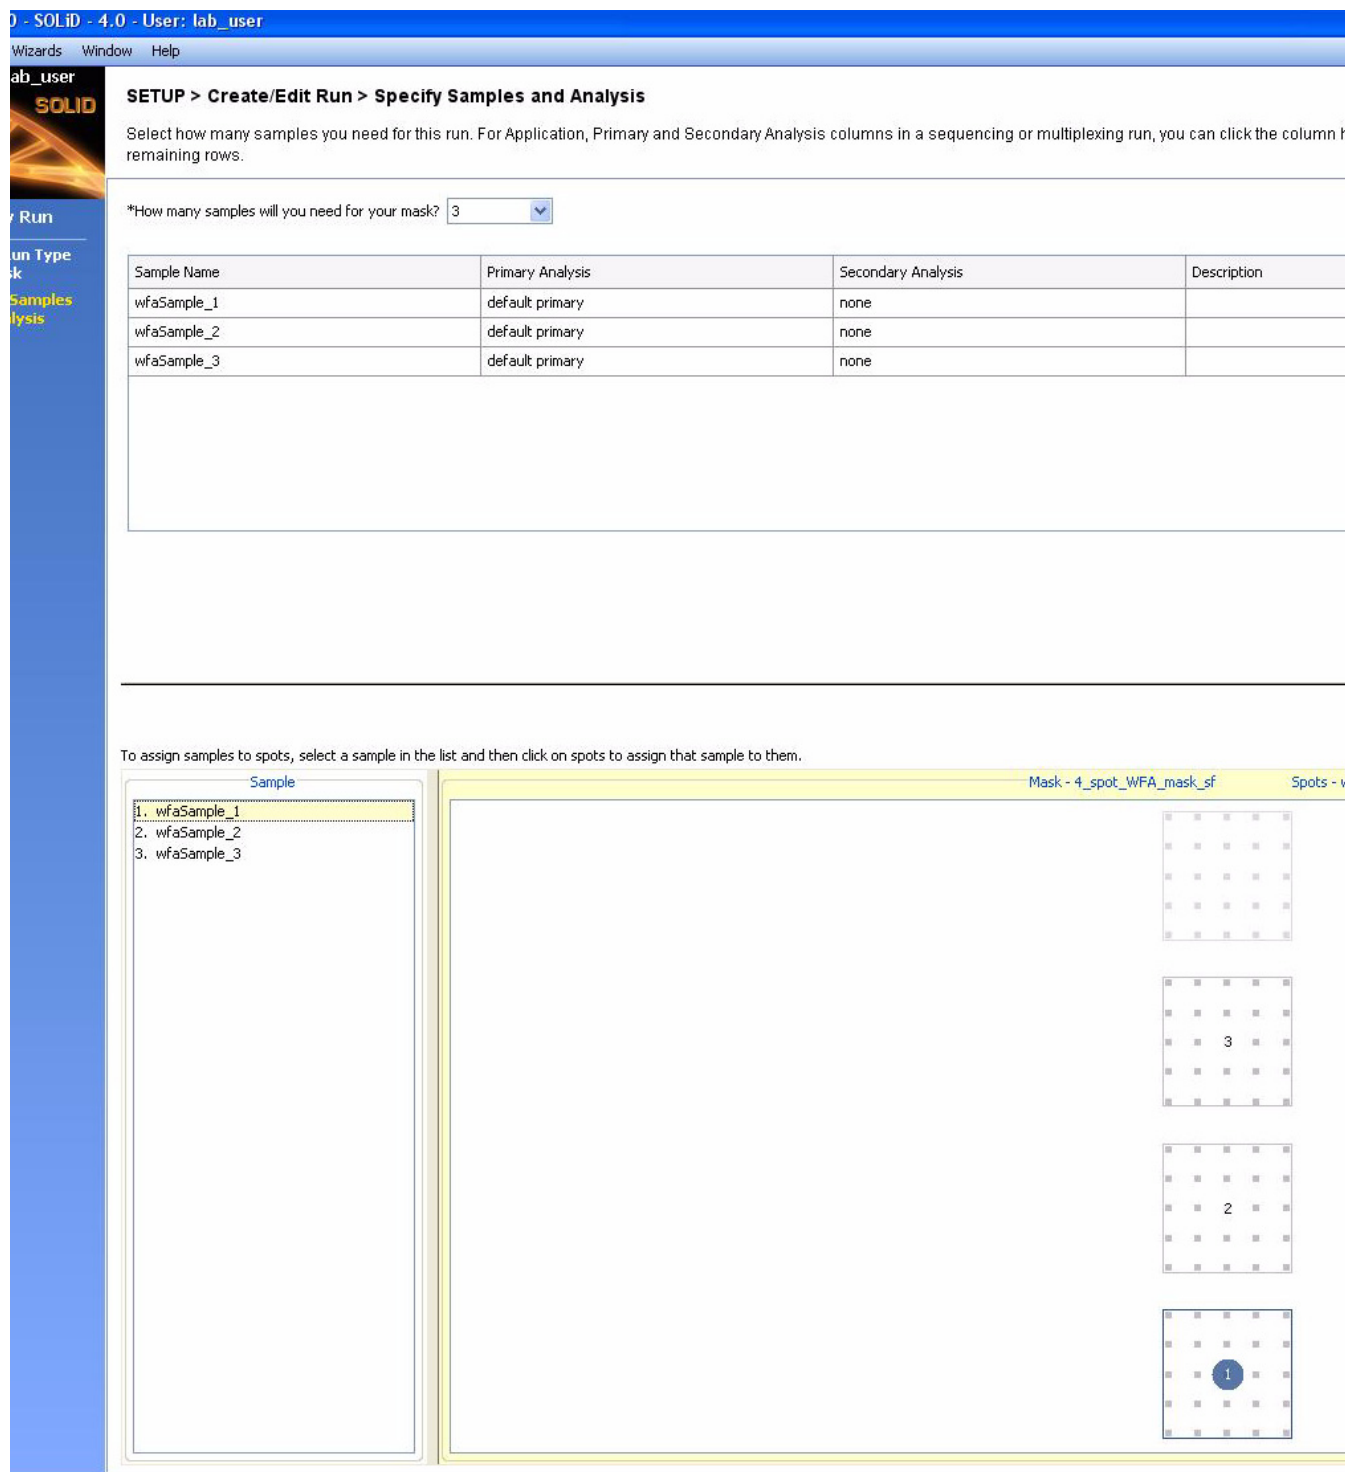

Figure 32 Complete the information in the Specify Samples and Analysis pane.
3. Complete the information in the Specify Samples and Analysis pane (see Figure 32):